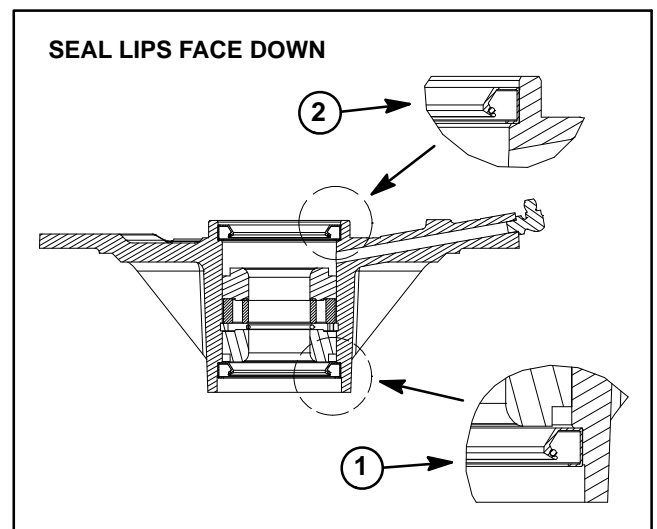

Figure 13
5. Install lower bearing cone and oil seal into bottom of spindle housing. **NOTE:** The bottom seal must have the lip facing out (down) (Fig. 13). This seal installation allows grease to purge from the spindle during the lubrication process.
NOTE: The upper seal must have the lip facing in (down) (Fig. 13). Make sure upper seal is flush to 0.080" (2.0 mm) recessed to housing surface.